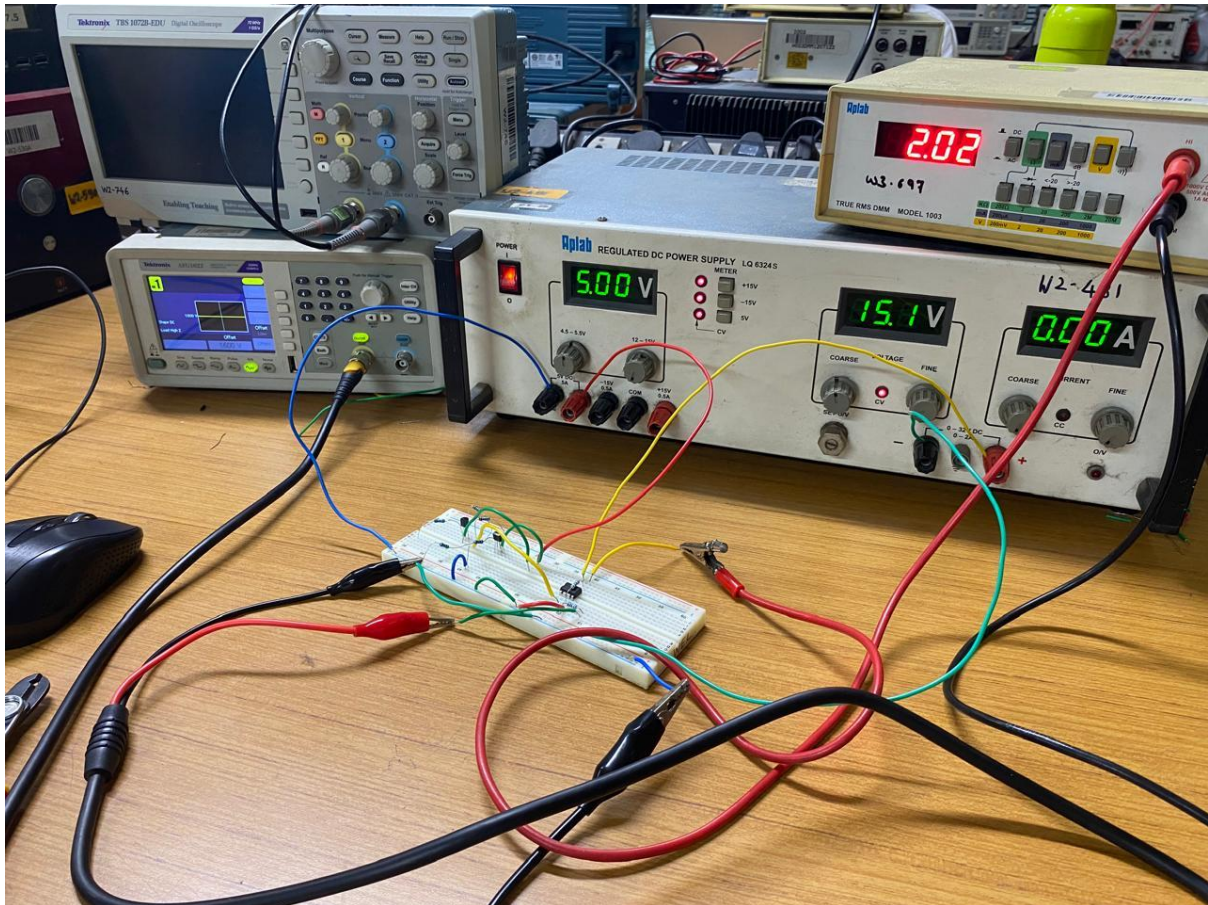

Fig 4
- If q1 base terminal is grounded and q2 base terminal is not grounded then also the motor is turn off.(refer fig 4)